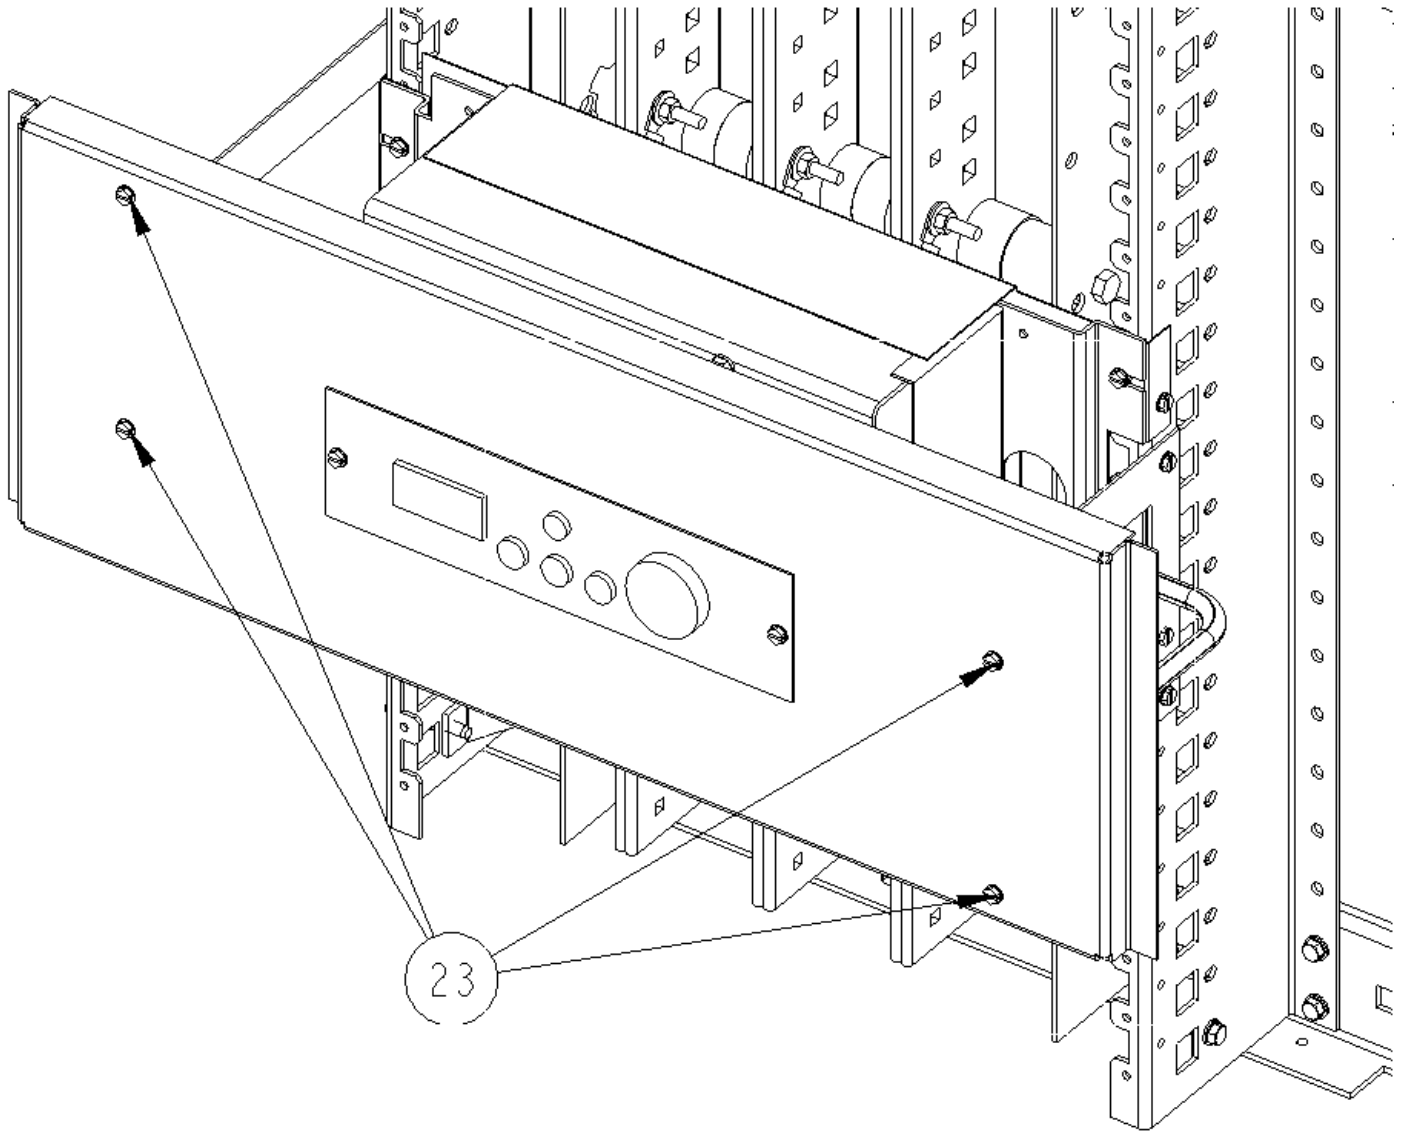

Figure 14. Mounting the filler plate assembly on the supports.
- 9. Install the filler plate assembly.** Plug the cable harness into the TVSS and monitor panel. Mount the filler plate assembly to the filler supports, as shown in Figure 14. Secure with four 10-32 x 7/16" thread-forming screws [23] and tighten to 22 in-lb.